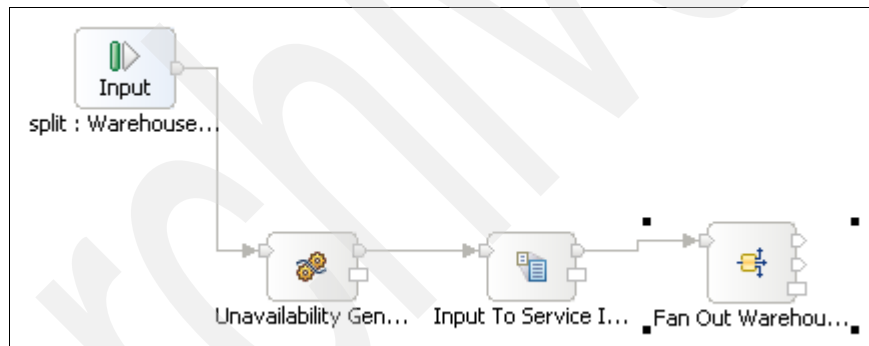

Figure 6-44 Fan Out Warehouses Web Services in the flow editor
2. Wire the out terminal of the InputToServiceInvoke transformation to the in terminal of the Fan Out primitive, as shown in Figure 6-44, to determine automatically the type of the Fan out in terminal.